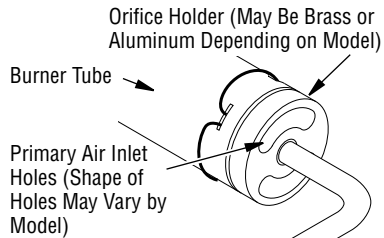

Figure 42 - Orifice Holder On Outlet Burner Tube
2. Inspect burner, pilot and primary air inlet holes on orifice holder for dust and dirt (*see Figure 42*).